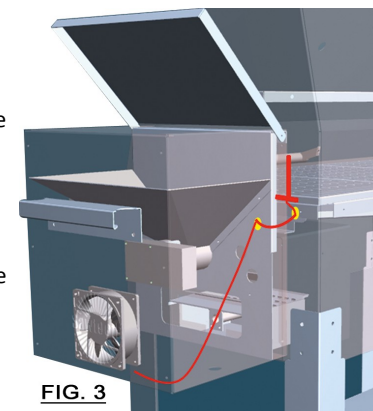

FIG. 3
- Fig. 3 illustrates how the finished retrofit will look